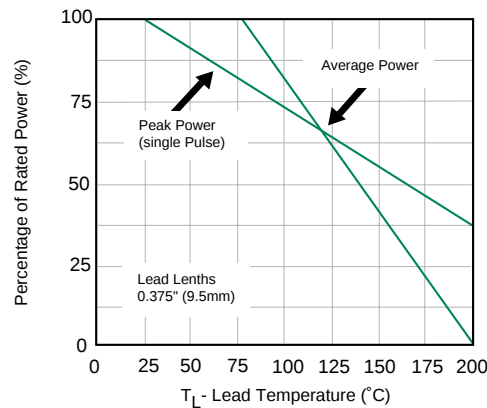

Fig. 2 Power Derating Curve
1. Non-repetitive current pulse, per Fig.3 and derated above T_A= 25°C per Fig.2